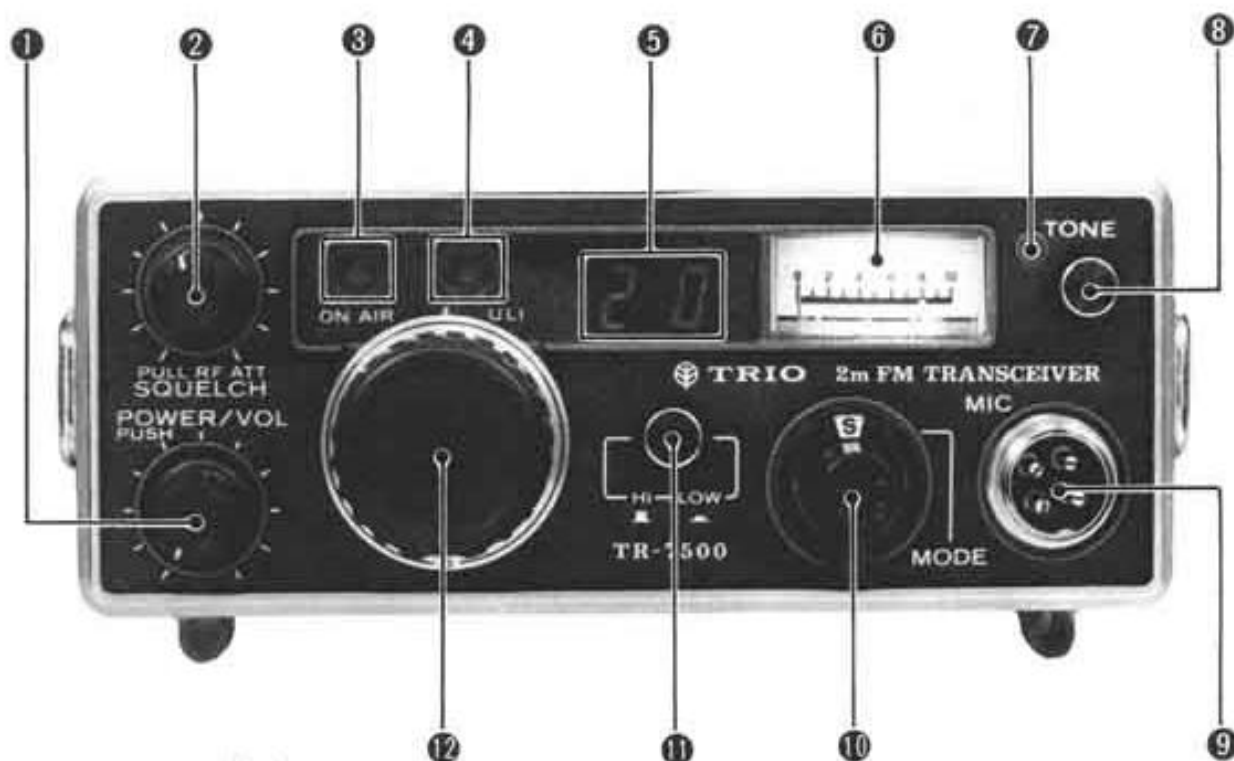

Fig. 1
2.1 FRONT PANEL (Refer to Fig. 1)
- ① **POWER/VOL Knob**